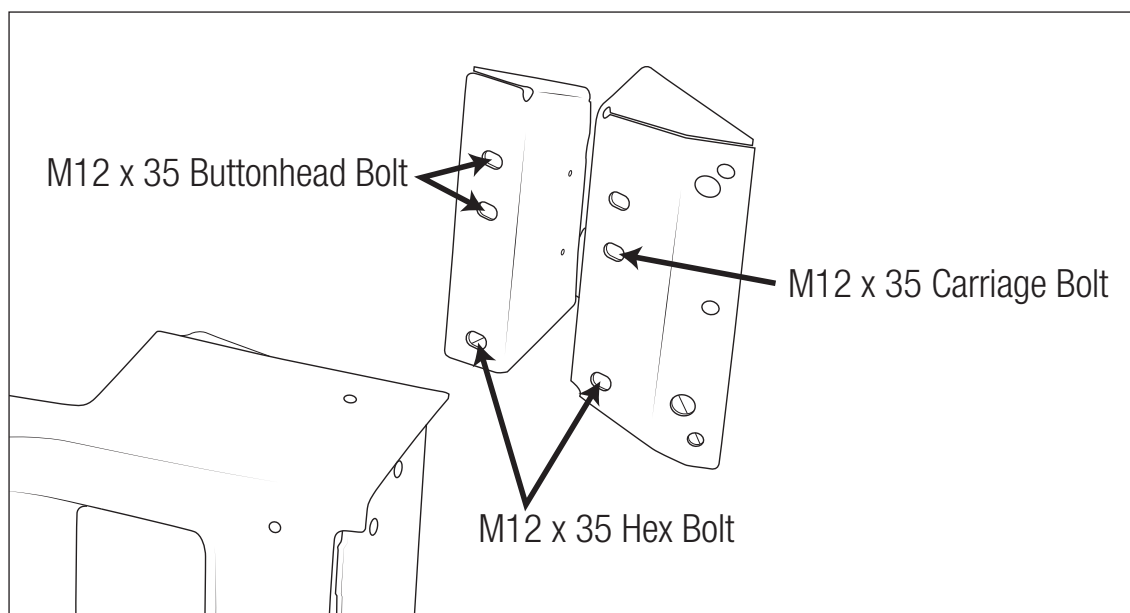

Figure 18
3. Install the remaining ten (10) bolts and hand tighten. There should now be six (6) bolts in each side of the bumper (fig. 18).